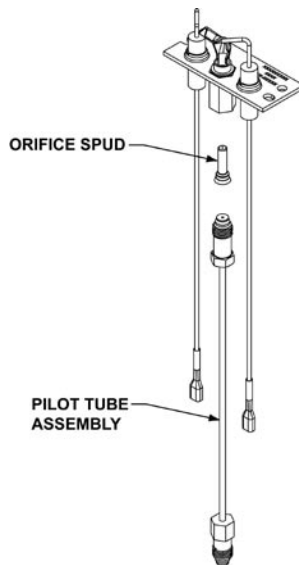

Figure 6.4
12. Unscrew the pilot tube fitting on the pilot and replace the orifice spud with the one included in the conversion kit (see **Figure 6.4**).
17. Reconnect the orange wire to the valve assembly. This will allow for the pilot to turn on with the control switch in the "ON" position. Check all pilot line connections for leaks. (See **Figure 6.4**)
18. Use a commercially available, non-corrosive leak check solution to test for leaks around the pilot. Be sure to rinse off all leak check solution following testing. See **Figure 6.4** for leak check points. Extinguish the pilot.